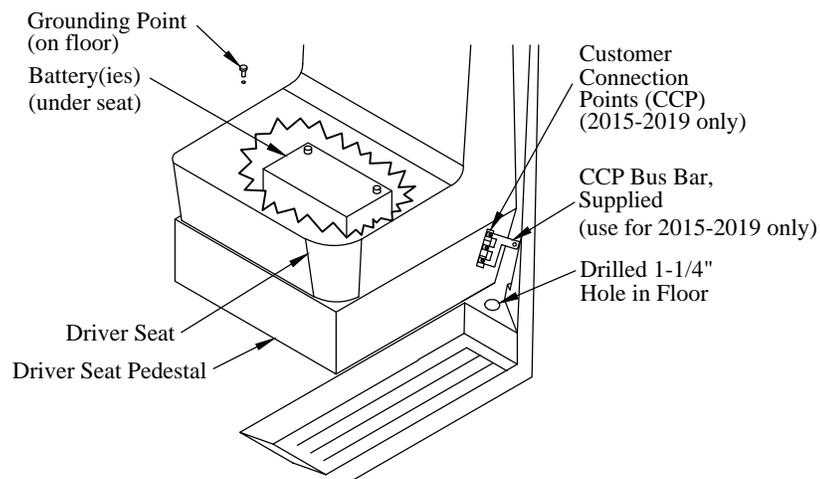

Figure 1: Power connection locations.
3. **Drill** and **Deburr** a 1-1/4" hole in the floor next to the driver seat in the location shown (Figure 1).
4. **Route** the power cables under the vehicle from the liftgate, along the frame, to a location under the driver door (Figure 1).
9. **Cut** the negative(-) lead to the length required to reach a vehicle ground point on the floor between the front seats (Figure 1).
11. **Connect** the negative(-) lead to a vehicle ground point on the floor between the front seats. (Figure 1).